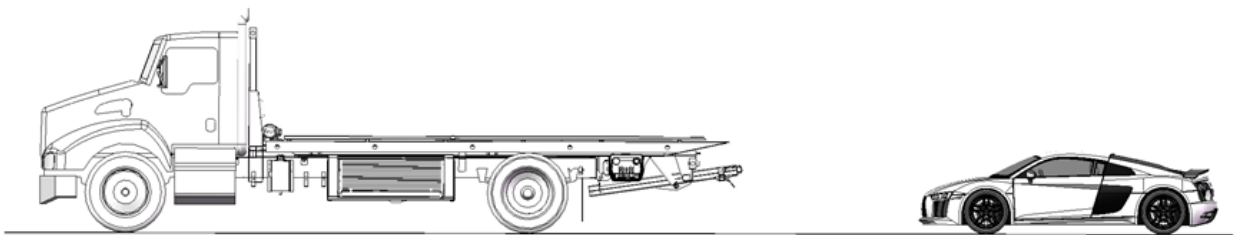

FIGURE 31 – PREPARATION DISTANCE: 10 TO 15 FEET
2. Position your truck in front of the vehicle to be hauled and put it in reverse. Back up, leaving a distance of 10 to 15 feet between the two vehicles, as illustrated in Figure 31.